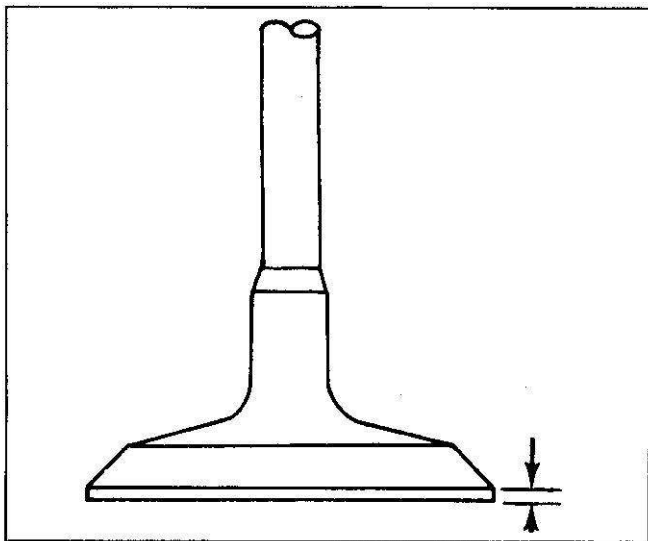

Figure 37. Valve Margin Thickness
- The minimum valve margin thickness after grinding is 0.7 mm (0.028 in) (figure 37).